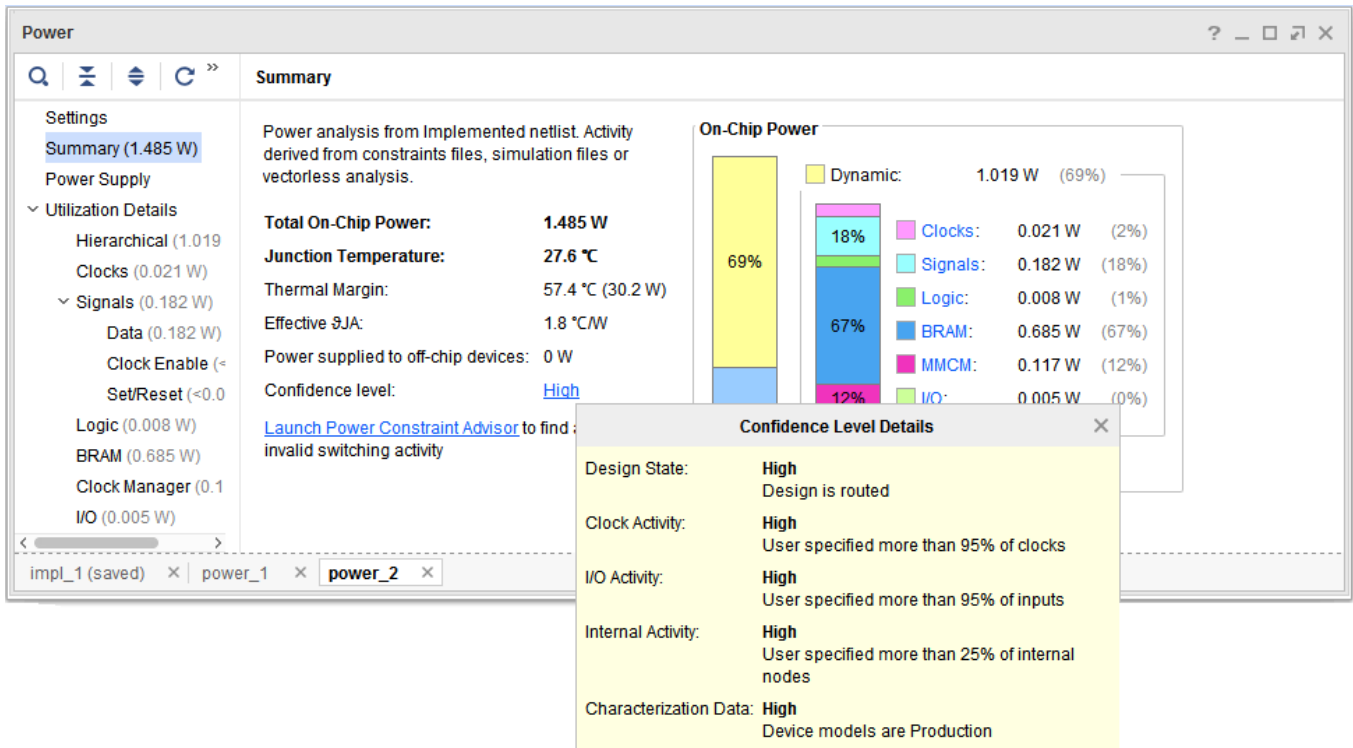

Figure 40: Confidence Level for Power Analysis with SAIF Input (power\_2)
- In the **Summary** view of the **power\_2** report (the report generated by the analysis for which you specified a SAIF file as input), click on **Confidence level (High in Figure 40)**.